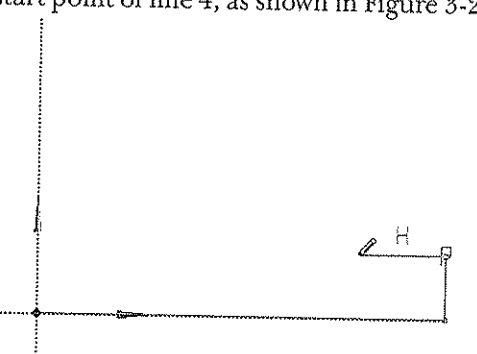

Figure 3-24 Specifying the endpoint of line 3
12. Move the cursor toward left to some distance; the symbol of Horizontal constraint (H) is displayed. Next, Click to specify the end point of line 3, as shown in Figure 3-24.